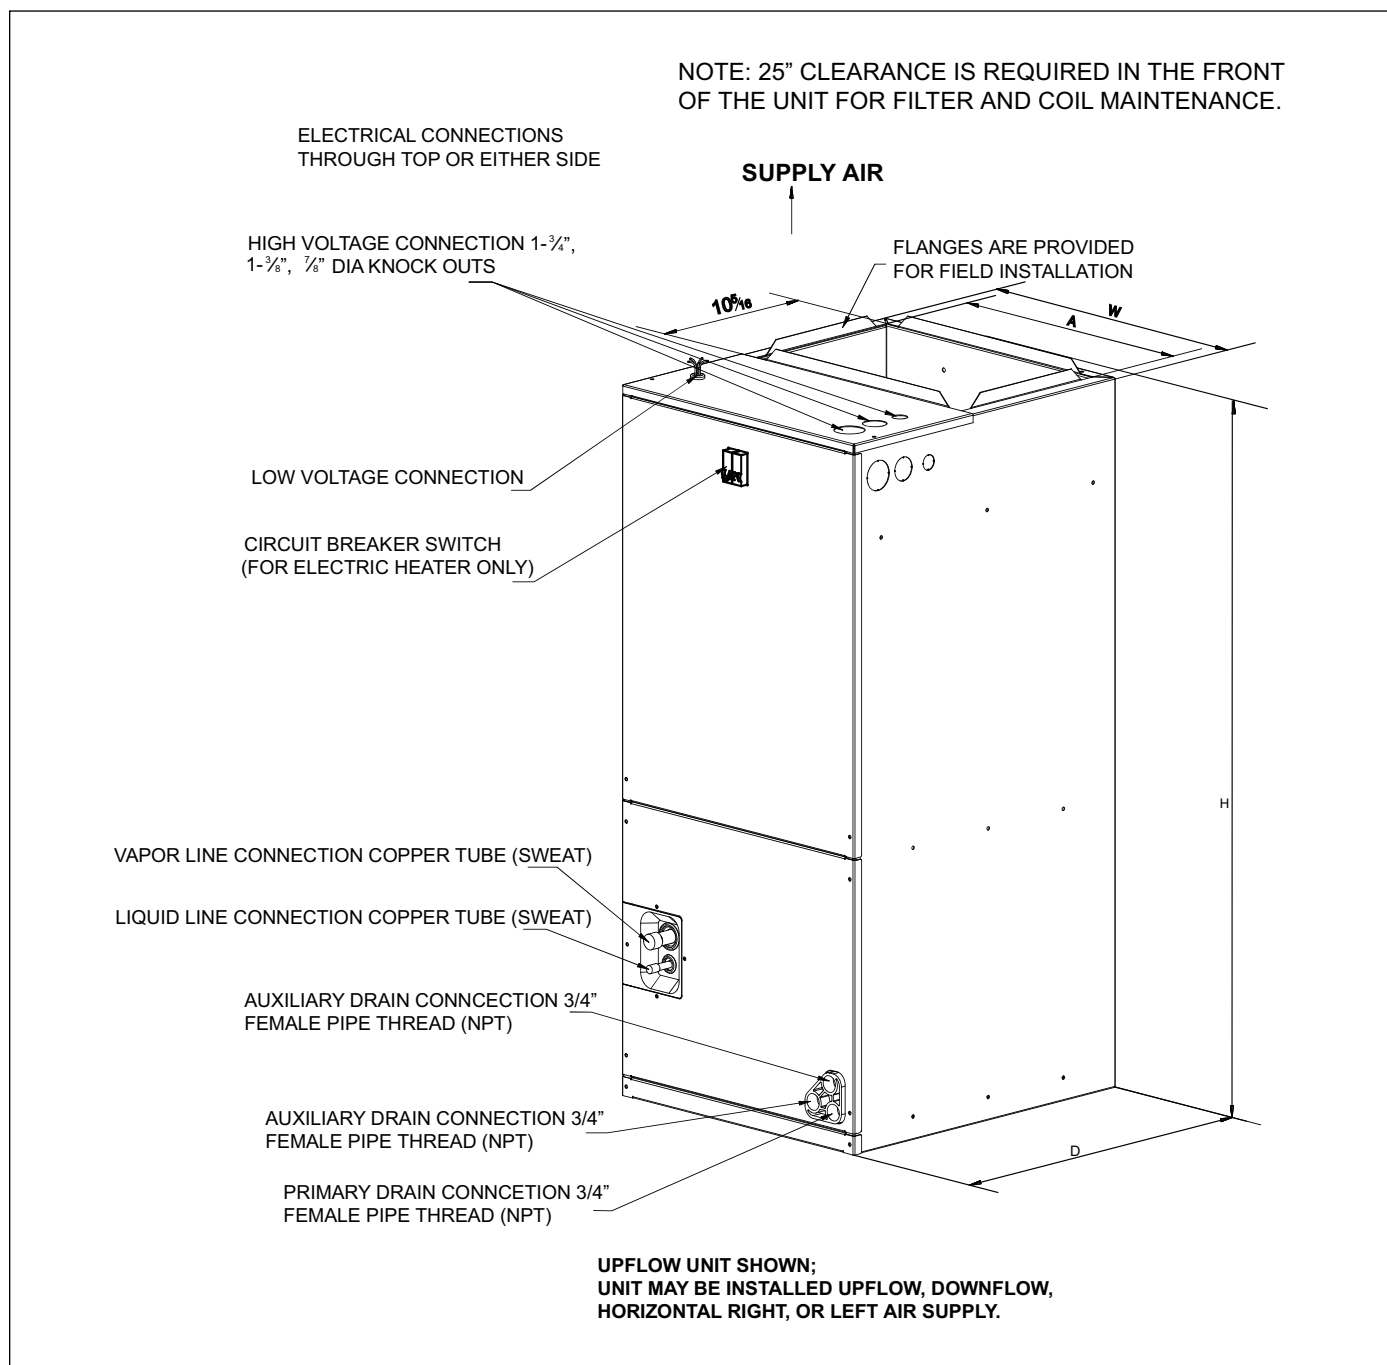

Figure 3
Top and side power and control wiring, accessible screw terminals for control wiring all combine to make the installation easy, and minimize installation cost. See fig.3.
- ▶ Vertical Upflow configuration is the factory default on all models (see Fig 3).
Lightly tighten the drain connections so they do not leak. Using excessive force may/will cause damage to the unit.(see Fig.3&4)